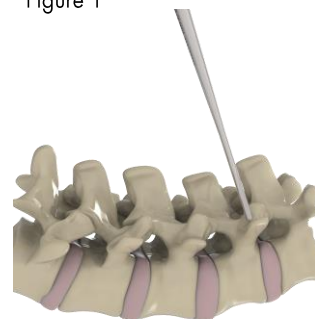

Figure 2
- Use a Straight (39-SP-0007), Curved (39-SP-0003), or Duckbill (39-SP-0005) Probe to open the pedicle canal (Figure 2). A pathway and trajectory through the pedicle can be established with a Probe allowing the instrument to follow the path of least resistance. The Probe should contact bone at all times. If resistance is felt while creating a pathway through the pedicle the entry point and trajectory should be re-evaluated. Laser etching on the Probe will indicate the depth of the Probe within the canal (30mm, 40mm, 50mm, 60mm, and 70mm depths).